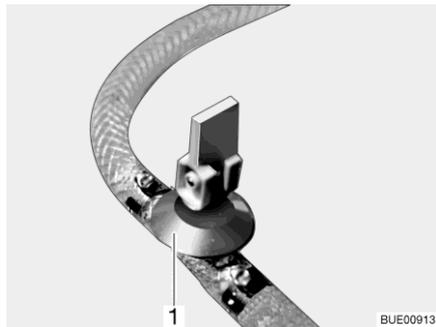

Fig. 168 Drain cock (with rocking lever)
- Close all drain cocks. In order to do this, position the rocking lever of the drain cock (Fig. 168,1) horizontally.